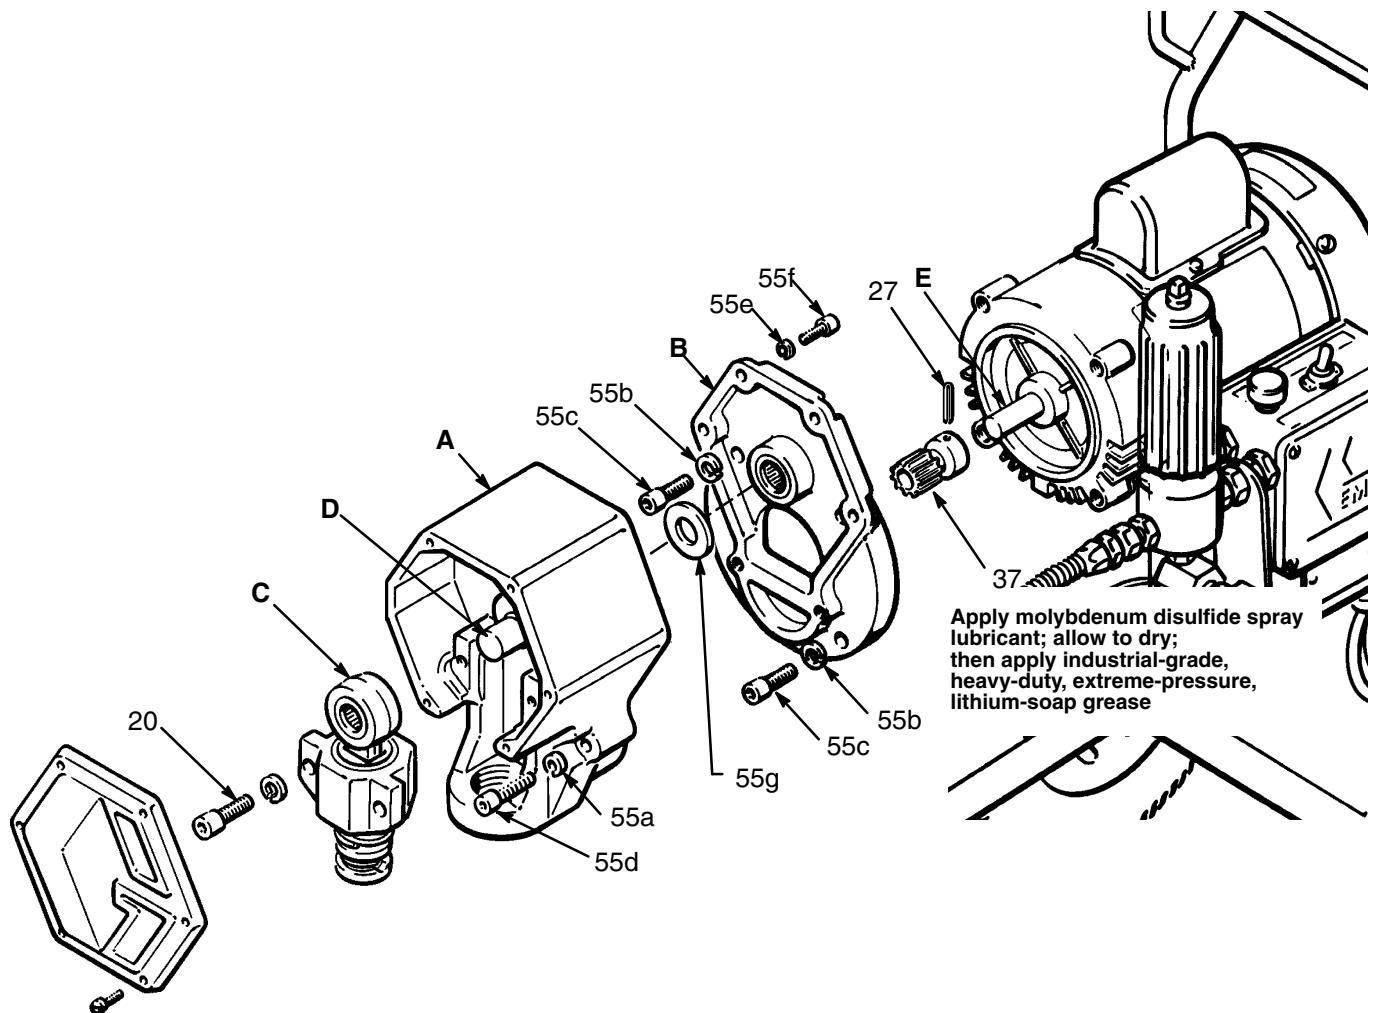

Fig 17
**NOTE:** Refer to Fig 17 for this procedure.
2. Remove the two screws (20). Pull the connecting rod and bearing assembly (C) off the crankshaft (D).
3. Remove the screws (55d and 55f) and pull the drive housing (A) off the motor housing (B).
4. Remove the screws (55c) and pull the motor housing (B) off the motor.
5. Clean the gear (37) and inspect it for wear or damage. Replace if necessary. To remove, drive out the pin (27) and pull the gear off the motor shaft (E). Apply molybdenum disulfide spray lubricant to the gear, allow to dry, then apply industrial-grade, heavy-duty, extreme-pressure, lithium-soap grease.